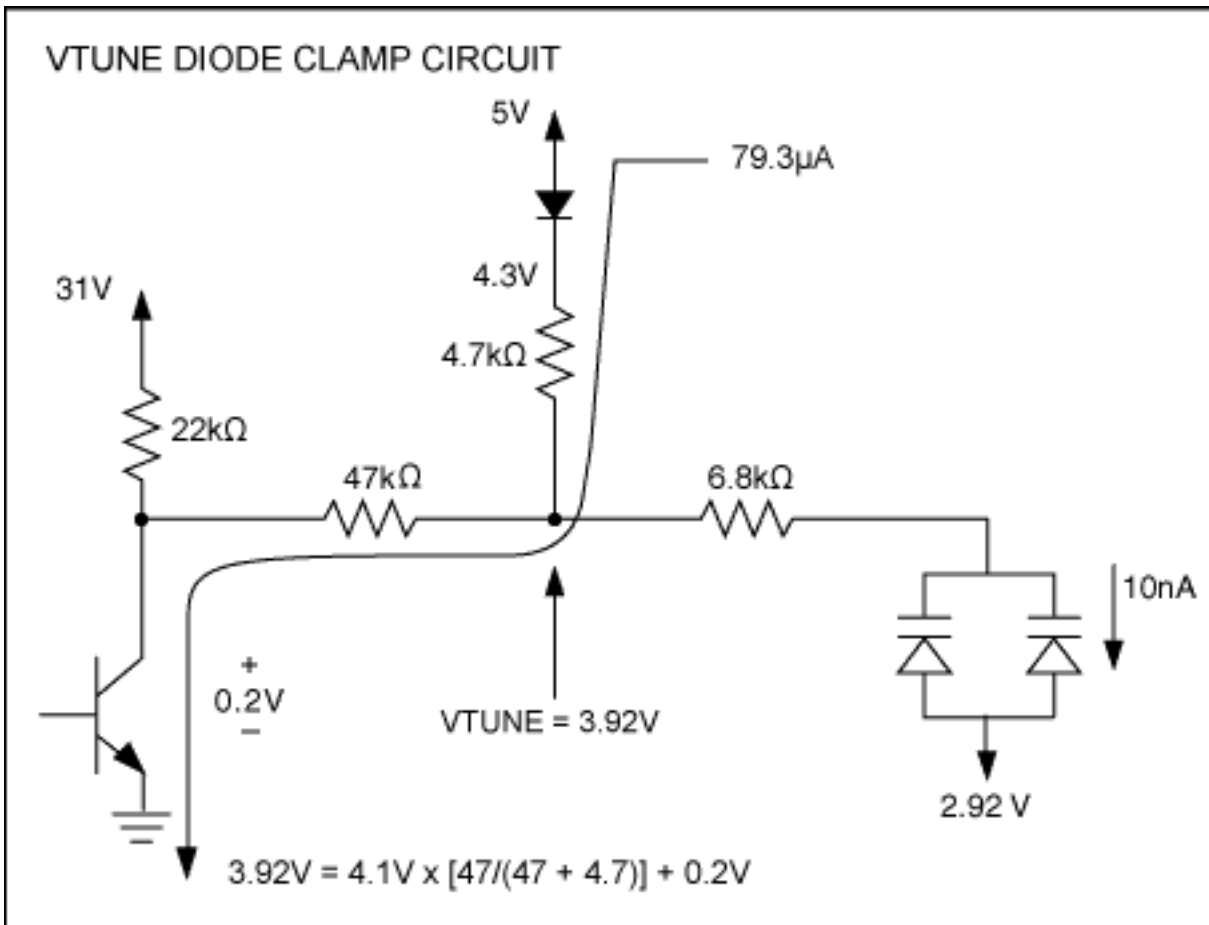
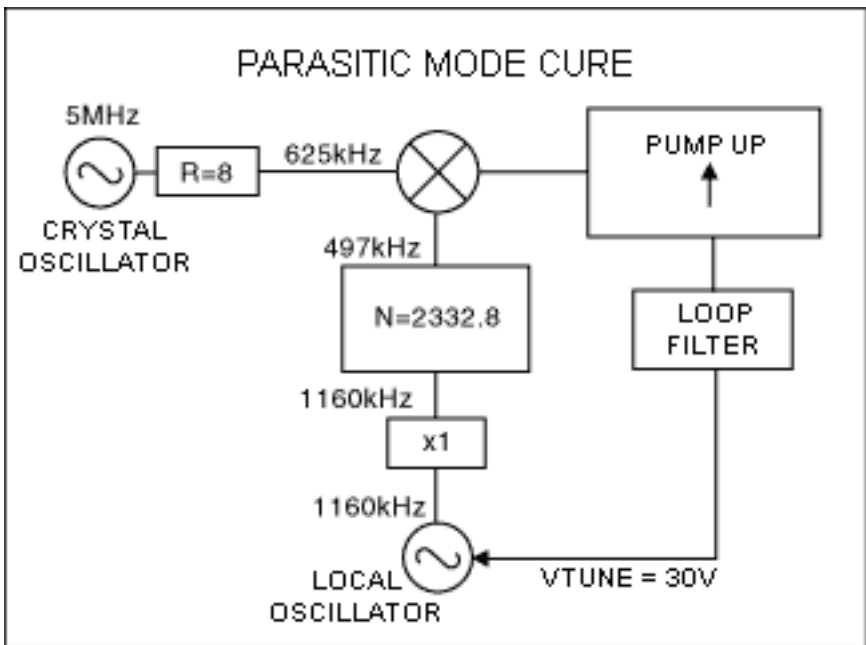

Figure 1. Typical diode clamp circuit.
Figure 5. Parasitic mode cure.
During normal operation, a diode clamp circuit is utilized to maintain  $V_{tune}$  above 3.92V (See **Figure 1**). This clamp circuit in the existing application circuit is implemented to prevent the tank from entering parasitic mode during normal operation.
Figure 1 shows during worst case steady-state operation where the charge pump transistor becomes saturated. Vtune is then clamped to 3.92V to keep the oscillator out of its parasitic oscillation mode.
**Figure 5** shows the resultant exit from parasitic mode.  $V_{tune}$  is forced to 30V due to positive feedback. The charge pump is in a continuous pump up mode. The maximum oscillation frequency for the tank circuit is reached, around 1160MHz. At this point in time if the doubler is activated the PLL will return to normal operation shown in Figure 1.